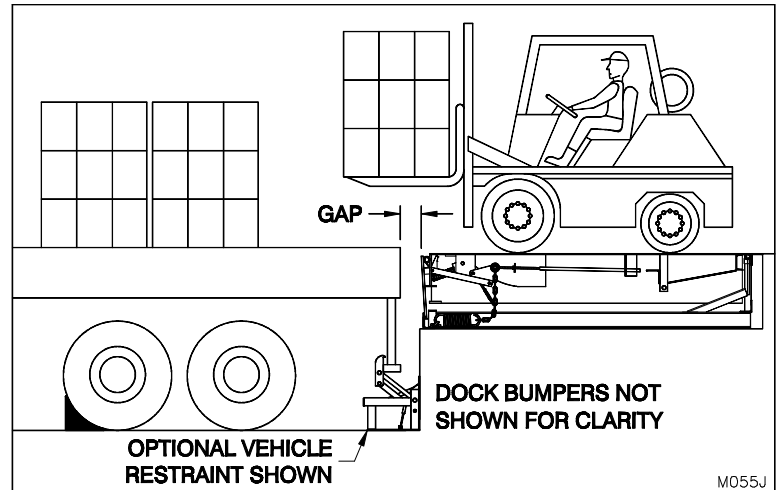

Figure 26: End Loading/ Unloading
1. Load or unload END LOADS with the deck and lip in the stored position as shown in Figure 26: End Loading/ Unloading on page 17. (See END LOADING/ UNLOADING INSTRUCTIONS on page 17 and END LOADING BELOW LEVEL CONTROL OPERATION on page 17)